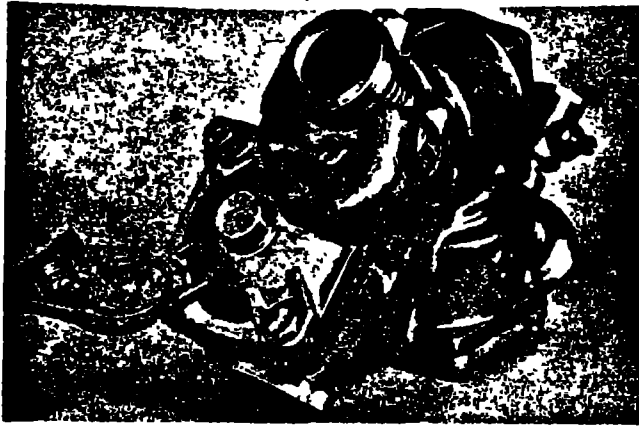

Figure 5
1. Remove the four bolts that hold the relief valve cover in place. Figure 5.